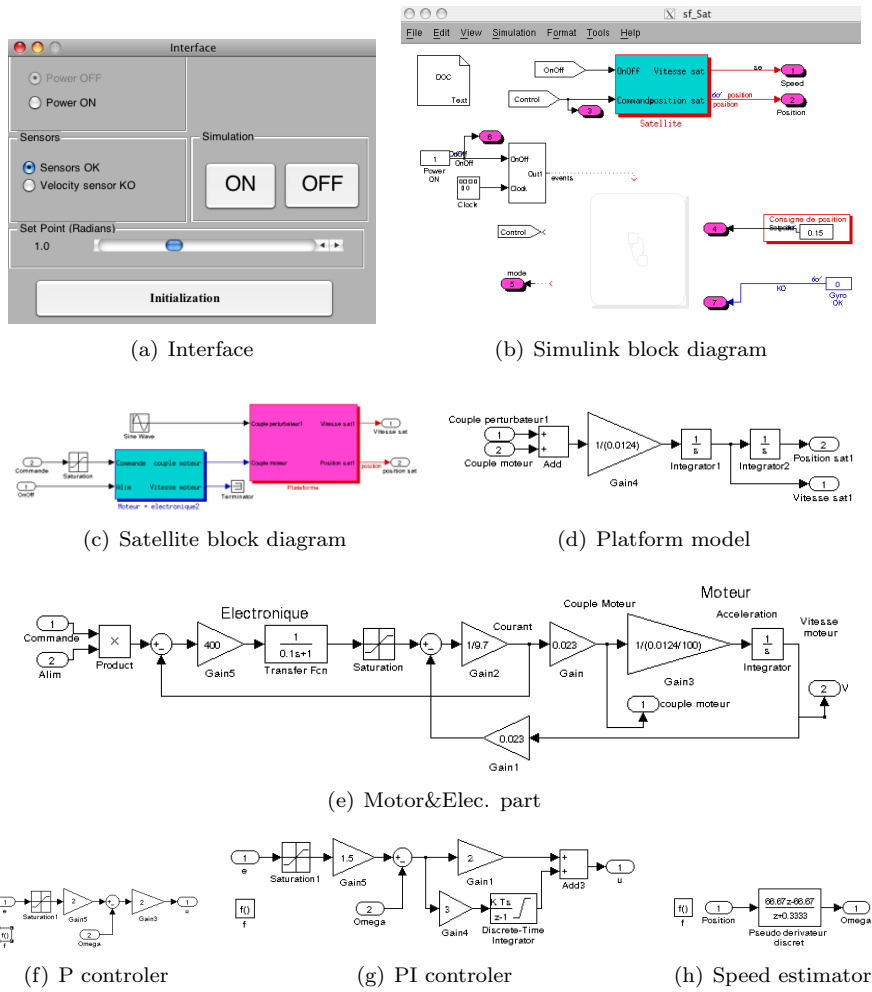

Figure 1: The Simulink skeleton model provided
As the communication with the ground station is not taken into account at this phase of the project, it is necessary to simulate in the Matlab environment the followings signals (see also section 2 and the interface in fig. 1(a) that will be provided in the skeleton of your attitude controller): PowerOn/PowerOff, Speed Sensor OK/ Speed Sensor KO and the reference (setpoint).
- the platform model (see fig. 1(d)),
- the motor and electronic model (see fig. 1(e)),
- the angular speed estimator from the position sensor (see fig. 1(h)),
- the P and PI controllers (see fig. 1(f) and (g)) and the pseudo derivative estimator.
You must model the hybrid control system (the different discrete states (or modes) and the different continuous equations), using Simulink/Stateflow (see appendix A for a quick user guide). It is necessary to use the Interface (provided in the skeleton) allowing to simulate in the Matlab environment the followings signals (see fig. 1(a)):
- Open Matlab; define the active directory as `sf_Sat`, run `interface_simu.m`: there are the Simulink blocks of fig. 1;
- double-click on block Stateflow (SF);
8. define edge-triggered events: open file XXX_Event; in the Stateflow editor, Add Menu, select Event/Input from Simulink; define each event in the order they enter in the mux block of the satellite model (2 events, see fig. 1(b)); you don't need to use the same names, only the order in the mux is important; let the Trigger "Rising", "Either" or "Falling"; using the up-arrow icon, verify that there is a trigger symbol in the SF; save the model as XXX_Trig;
1. click on the Initialization button in the Interface window (fig. 1(a));
The Stateflow will be compiled and run on the target (embedded in the satellite). At this step, the satellite is no more simulated (as in fig. 1(b) to fig. 1(d)) but will receive the control generated by the stateflow and provide the inputs for it.
When using Matlab for simulation, the model runs directly on the PC under development. When using xPC Target, the Simulink model is compiled and loaded in the XPC target in real time. The PC is connected to the process via Ethernet. To validate a control law, the simulated physical model (in our case, the platform, the motor and electronic models, see upper part of fig. 1(b)) is replaced by the physical system itself.